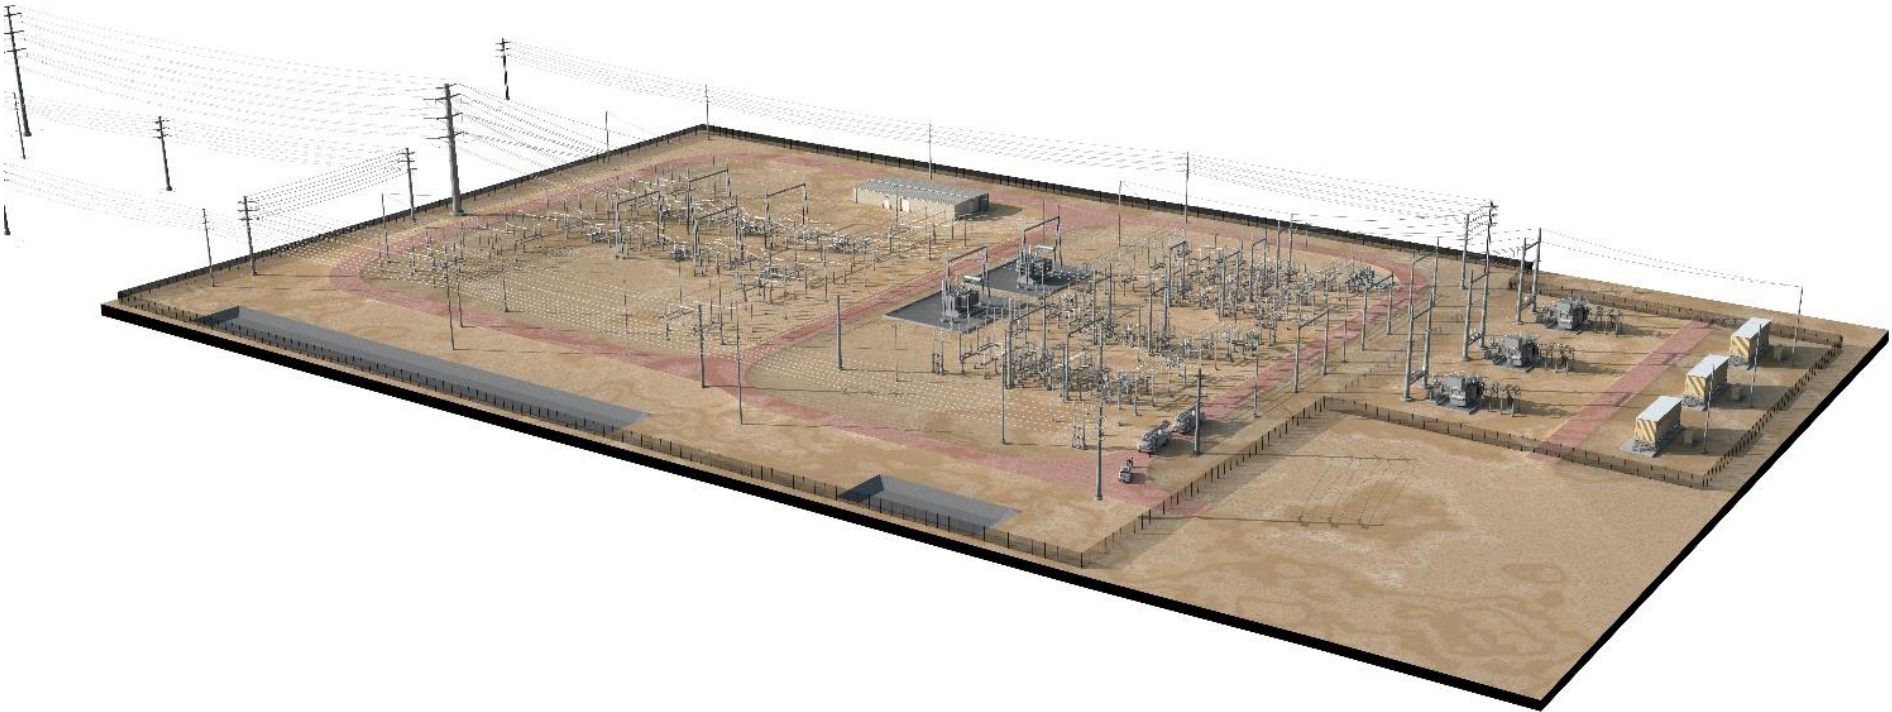

FIGURE G-25
- Figure G-25: Rendering of Proposed 230 kV Transmission Line and Proposed Prickly Pear 230 kV Substation from Elliot Road Looking East